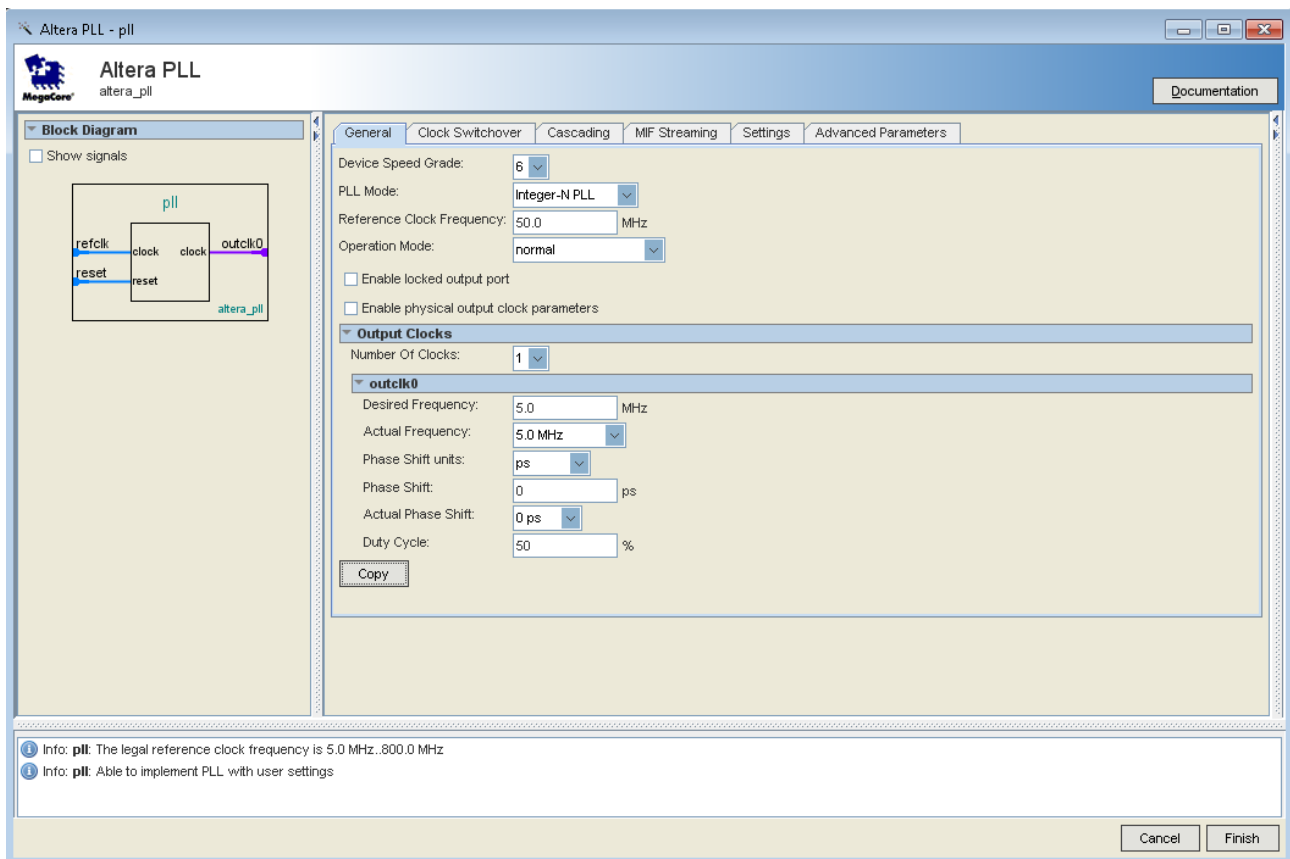

Figure 3-11 MegaWizard Plug-In Manager Selections
7. Then, make the following selection (see Figure 3-11).